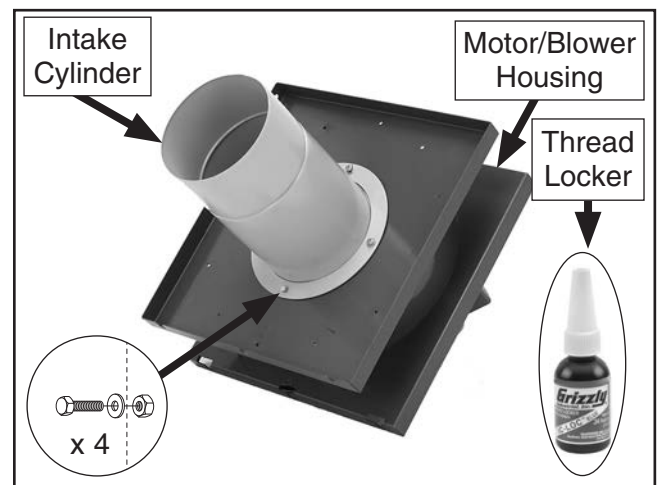

Figure 8. Intake cylinder attached to the bottom of motor housing.
- Attach intake cylinder to bottom of housing, as shown in **Figure 8**, using (4) $\frac{5}{16}$ "-18 x $\frac{3}{4}$ " hex bolts, (4) $\frac{5}{16}$ " flat washers, and (4) $\frac{5}{16}$ "-18 lock nuts.